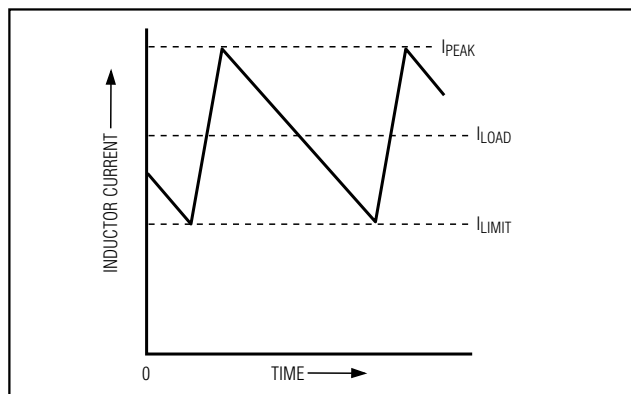

Figure 4. "Valley" Current-Limit Threshold Point
The current-limit circuit employs a unique “valley” current-sensing algorithm (Figure 4). If the magnitude of the current-sense voltage at CS is above the current-limit threshold, the PWM is not allowed to initiate a new cycle. The actual peak current is greater than the current-limit threshold by an amount equal to the inductor ripple current. Therefore, the exact current-limit characteristic and maximum load capability are a function of the sense resistance, inductor value, and battery voltage.
- 1) Determine the minimum (valley) inductor current $I_{L(MIN)}$ under conditions when V_{IN} is small, V_{OUT} is large, and load current is maximum. The minimum inductor current is I_{LOAD} minus half the ripple current (Figure 4).